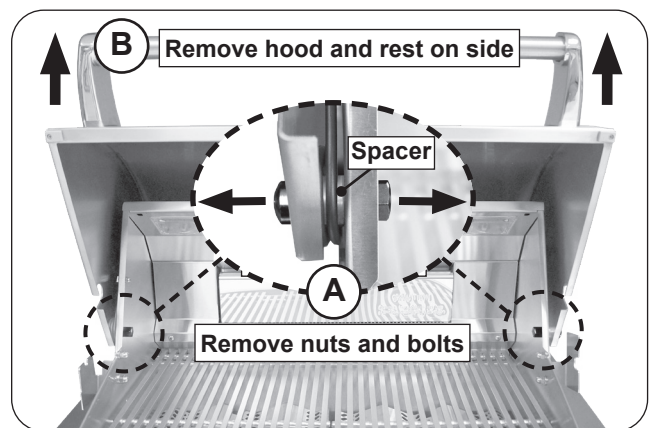

Fig. 1-2 Remove hood
3. Remove oven hood bolts and nuts from both sides as shown in Fig. 1-2, A.
4. **Using two installers**, carefully lower the hood (slightly) to free the spring(s) from the spring mount(s), then carefully lift the oven hood from the grill and remove completely (Fig. 1-2, B). Rest the hood (on it's side) on a soft surface.
Note: Be careful with the spacers while the hood is being removed. Remove the spacers once the hood is completely freed from the grill. Reference Fig. 1-2.